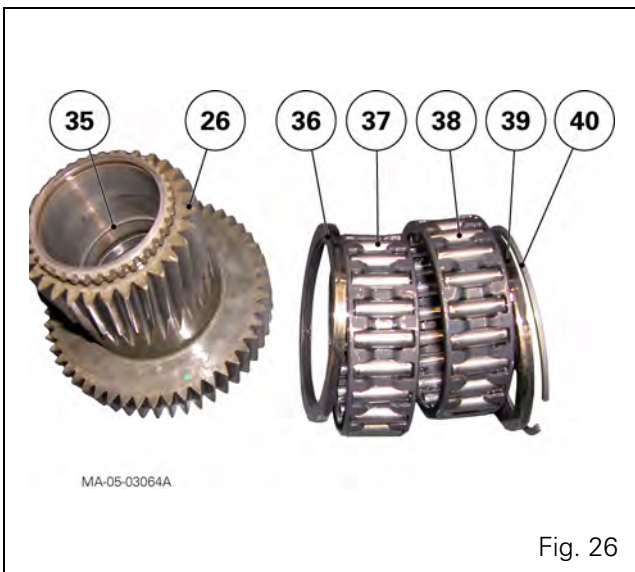
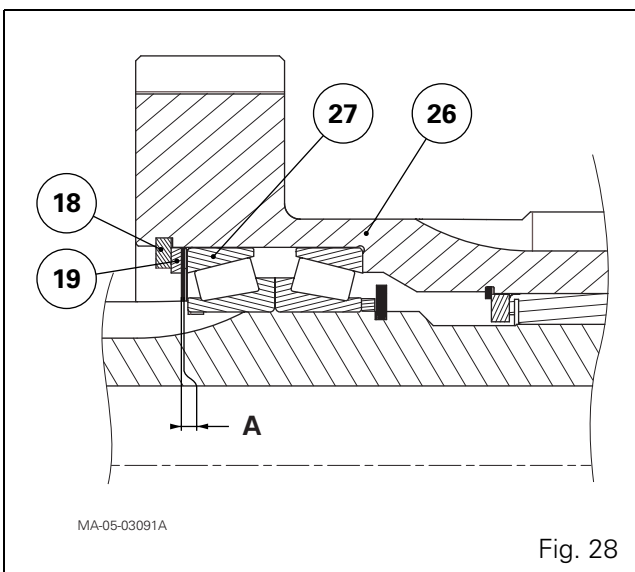

Fig. 26
Fig. 28
64. Remove the snap ring (40). Take off the needle bearings (38) and (37) with the spacers (36) and (39). Remove the snap ring (35) if required (Fig. 26).
65. Remove the circlip (34), washer (33) and bearing cones (28) and (29).
66. If necessary, remove the bearing cone (2).
70. Check the presence of the snap ring (35) in the double pinion (Fig. 26).
71. Fit the spacer (36), greased needle bearings (37) and (38), and spacer (39) in the pinion (26) (Fig. 26).
72. Fit the snap ring (40) (Fig. 26).
73. Slide the shaft (1) into the pinion (26).
74. Fit the washer (19) and circlip (18) (Fig. 28).
75. In order to position the bearings correctly, push and pull the pinion (26) while turning it.
76. Place a dial gauge feeler pin on the surface of the pinion (26).
77. Measure the clearance **A** at three points (Fig. 28). Calculate the average of the three readings.
78. Remove the circlip (18) and the washer (19) (Fig. 28).
79. Between the cup (27) and washer (19) insert the thickness of shims required to obtain clearance **A** (Fig. 28):